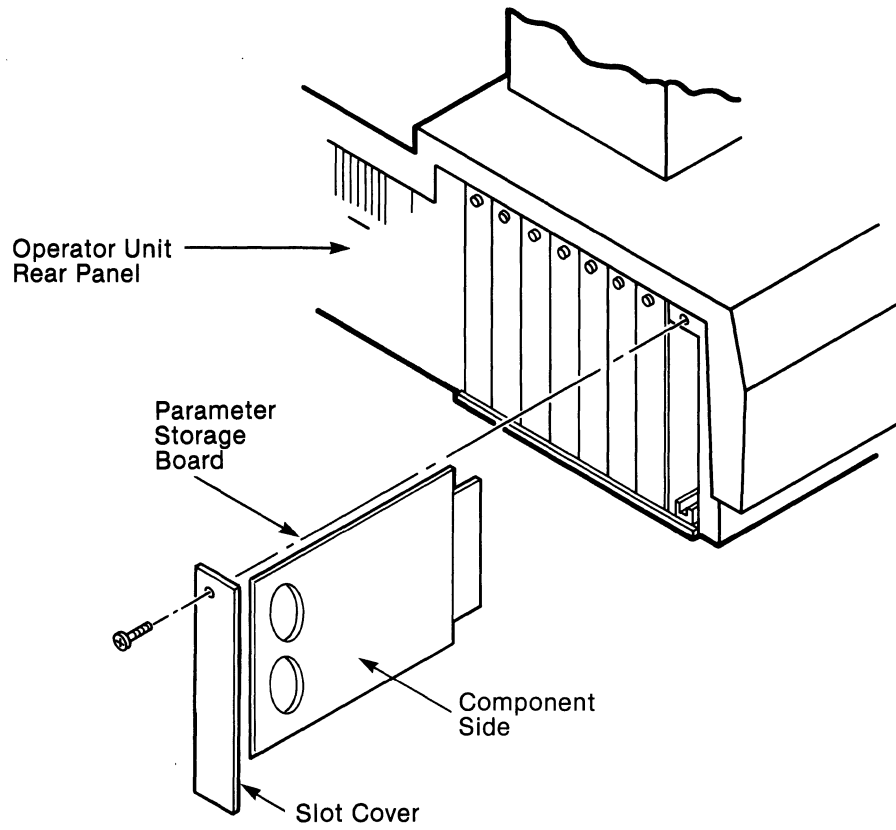

Figure 2-2. Installation of the Parameter Storage Board
- c) Insert the Parameter Storage board into the slot, as shown in Figure 2-2. Push the board in fully until it is seated in the connector at the back of the slot.